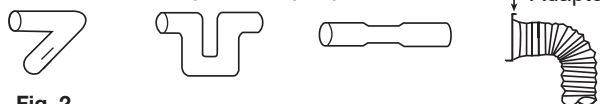

Fig. 2
7. Do not install the unit where ducts are configured as shown in Fig. 2.